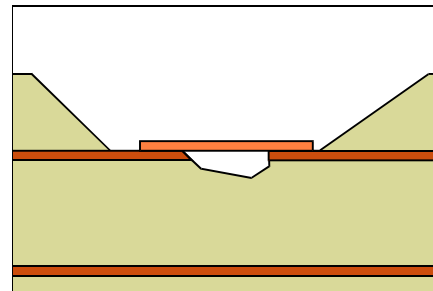

Figure 4: Circuit Track in place ready to be soldered.
10. Place the Circuit Track in position. The Circuit Track should overlap the existing circuit a minimum of 2 times the circuit width. (See Figure 4).